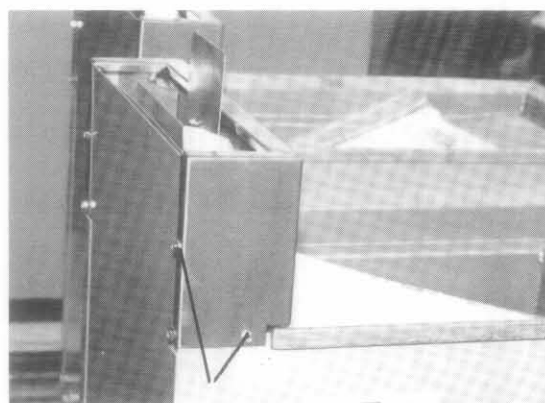

Fig. 16
- 5) Remove the screws from the sides and back of the flue cap and remove the flue cap. See Figure 16.